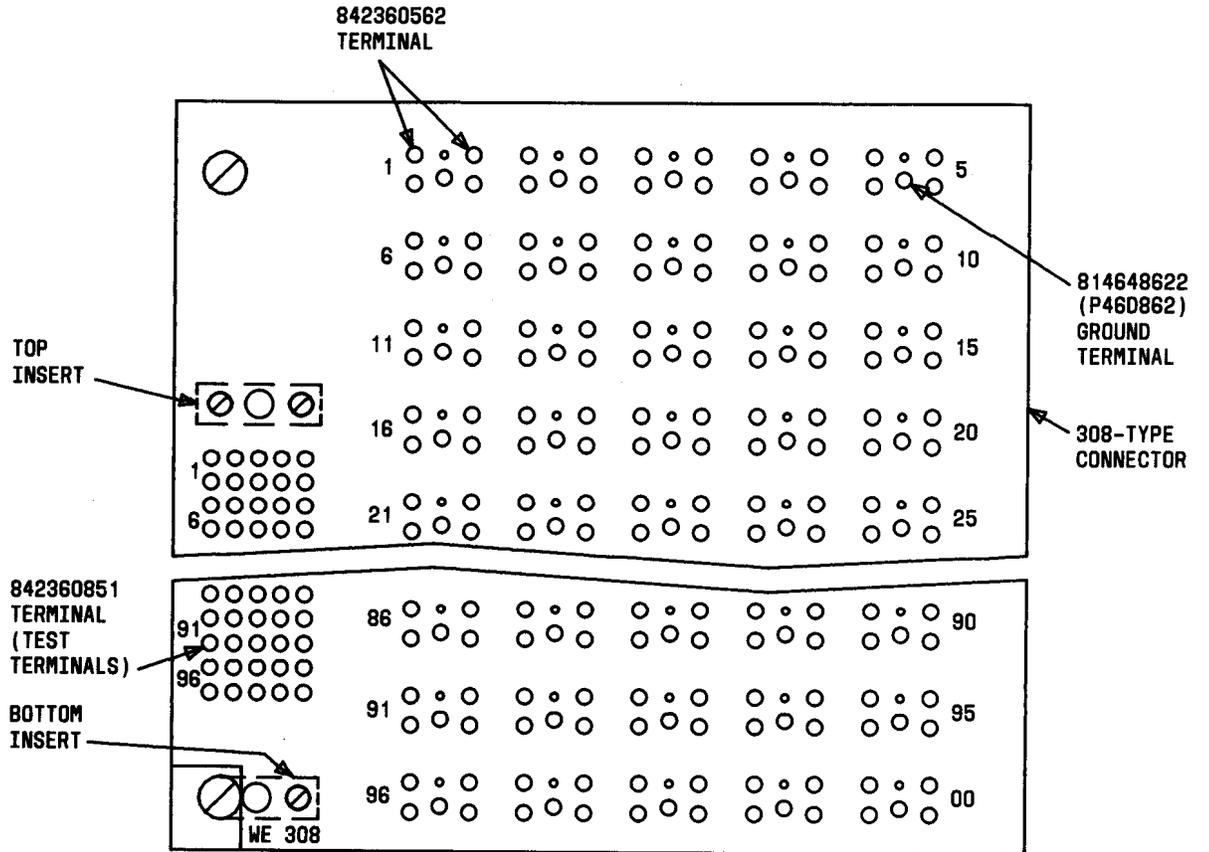

Fig. 7—308-Type 1 Connector Panel
**5.01** *Threaded Inserts (Fig. 7):* The 100-pair P or R test connector attaches to the 308-type connector by means of two thumbscrew fasteners which engage threaded inserts at the top and bottom of the test contact field. The threaded inserts have different comcode numbers because of their different